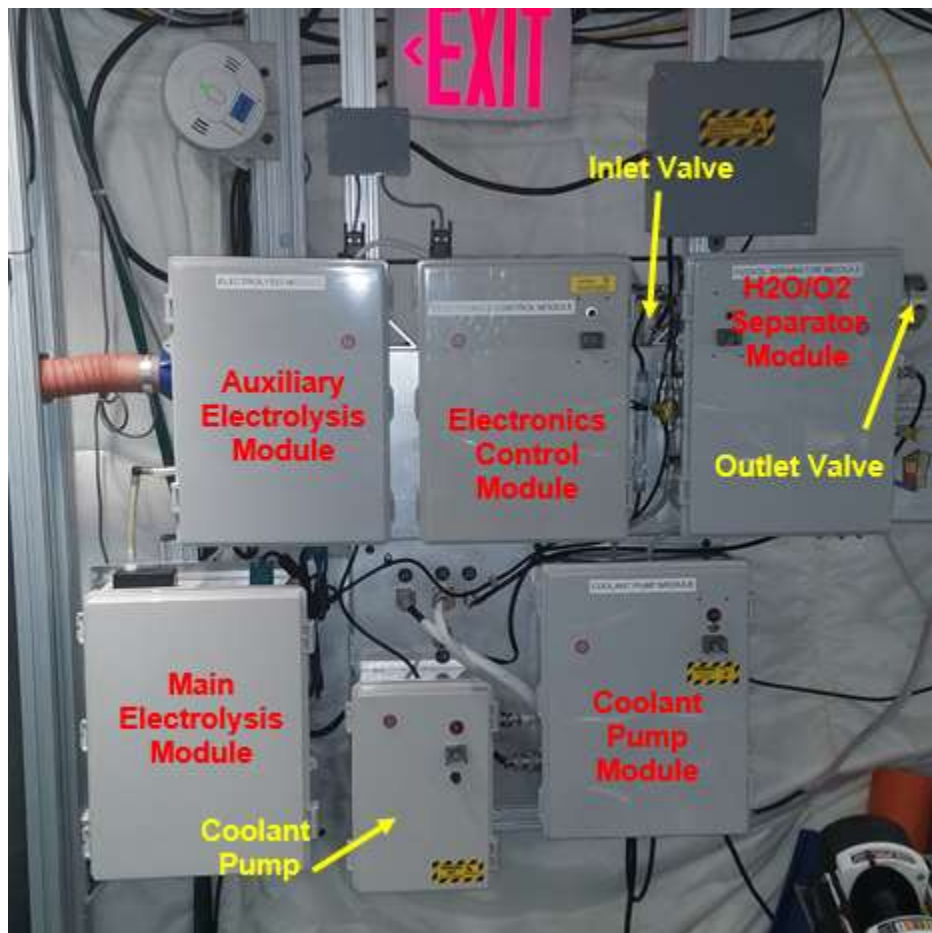

Figure 1: Solid Polymer Electrolysis System
- 1.4 Unlock both latches to Auxiliary Electrolysis Module and open door (see Figure 1).
- 1.6 Switch outlet valve to H₂O/O₂ Separator Module to “CLOSED” (see Figure 1).
- 1.12 Switch outlet valve on right side of H₂O/O₂ Separator Module to "OPEN" (see Figure 1.)
- 2.1 Unlock both latches to Coolant Pump Module and open door (see Figure 1).